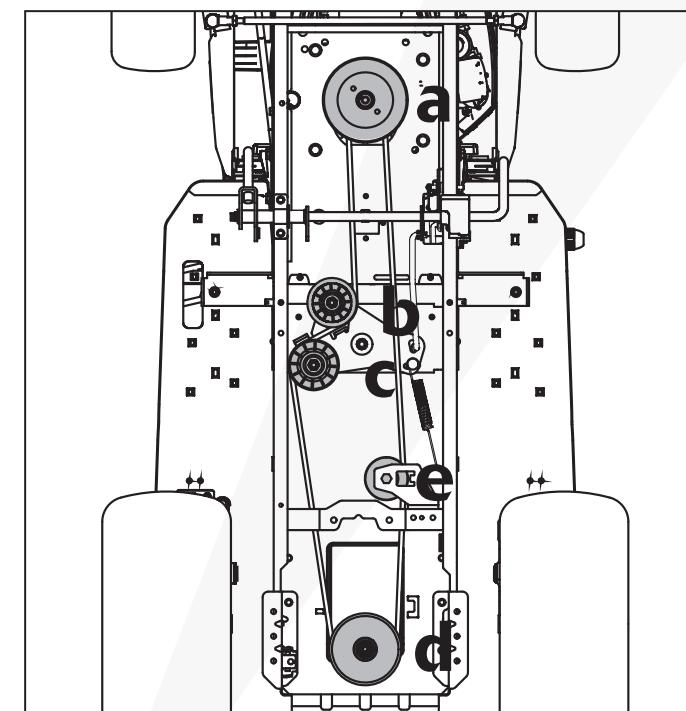

Fig. 32
2. Remove the drive pulley assembly (a, Fig. 32) by removing the bolt that fastens it to the engine output shaft.
3. Remove the three pulleys (b, c, e Fig. 32) by removing the nuts that fasten them to the mounting bracket.
4. Slip the belt off the transmission pulley. (d, Fig. 32)